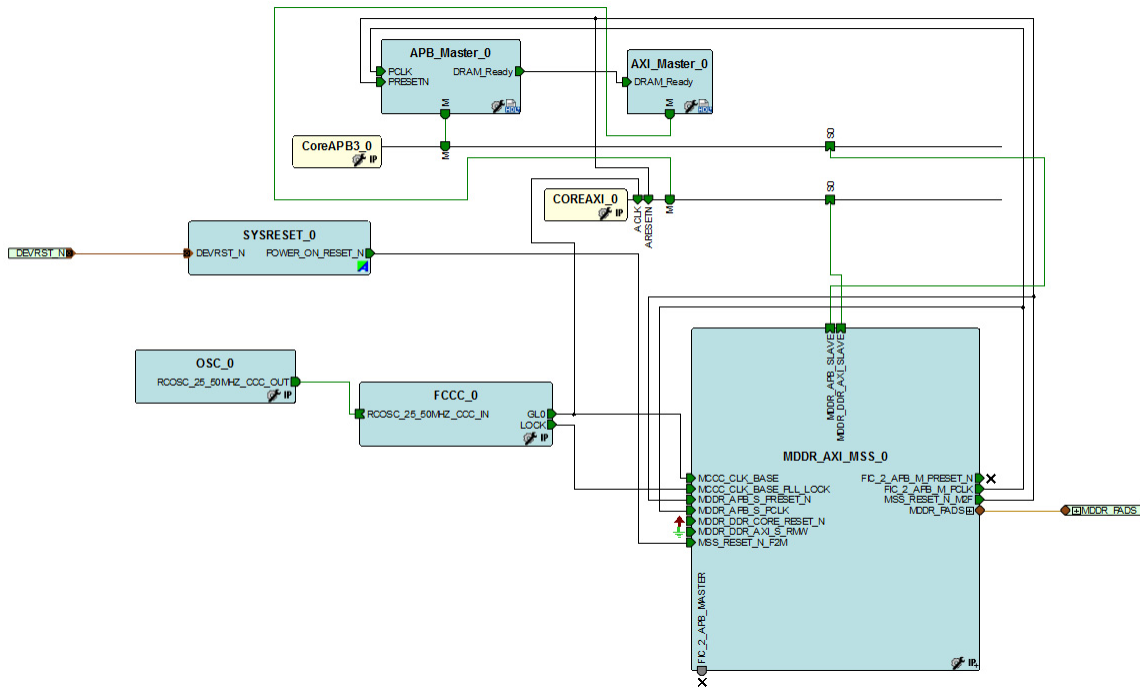

Figure 1-19 • SmartDesign Canvas
10. Make the other connections in the SmartDesign canvas, as shown in Figure 1-19 on page 45.